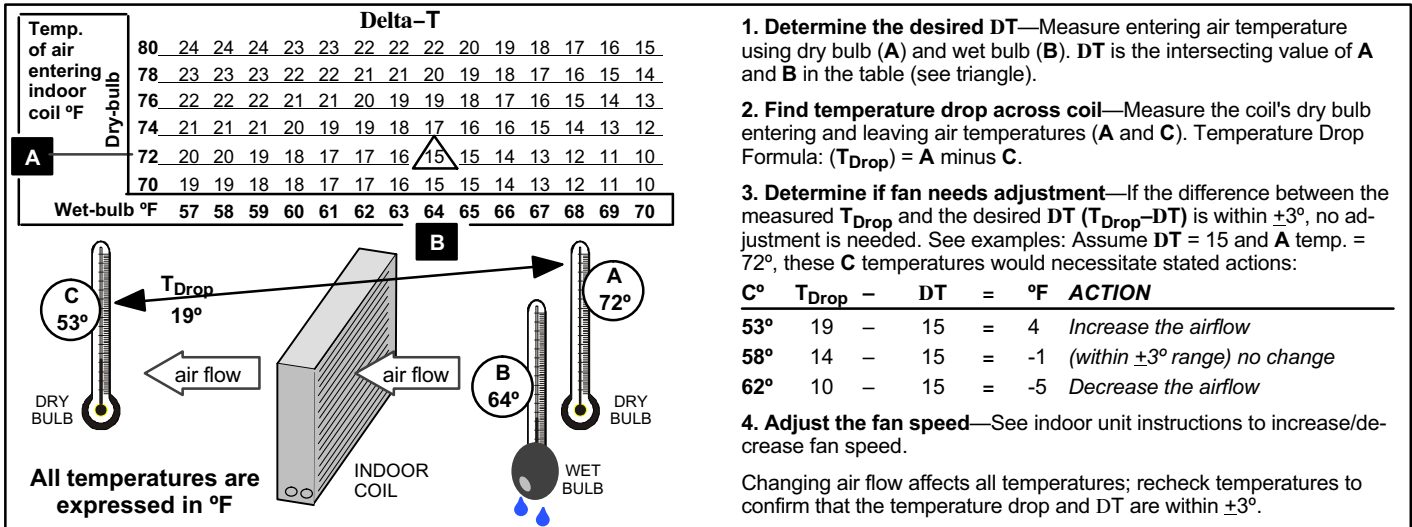

Figure 18. Checking Indoor Airflow over Evaporator Coil using Delta-T Chart
1. Checking and adjusting indoor airflow as recommended in figure 18.
Check airflow using the Delta-T (DT) process using the illustration in figure 18.